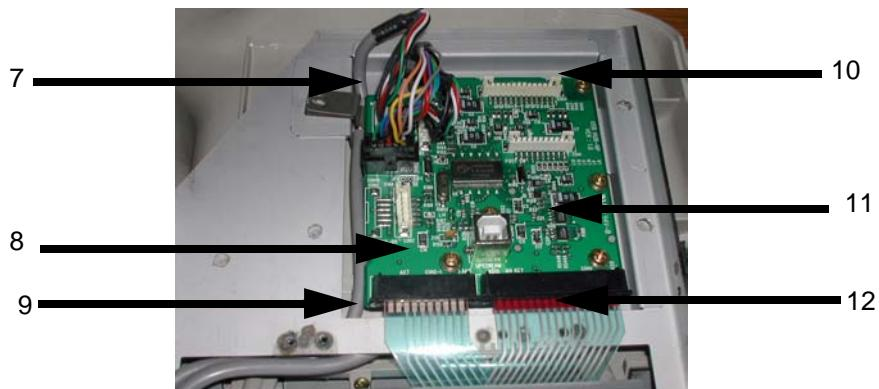

Figure 8-38 Unscrew 6 screws
- 3.) Unscrew six (6) screws (6-11) to remove HUB Board Assy. Refer to Figure 8-38.